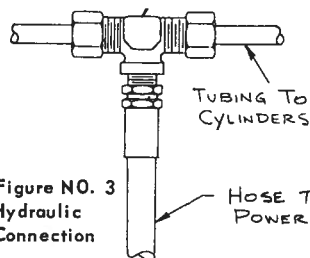

Figure NO. 3
4. Connect Hydraulic Hose from power package to Tee connection on Main Assembly. See Figure NO. 3. NOTE: If Cheek Bender is to be used with Speednotch Hydraulic package, remove plug from sixth hole of manifold and screw nipple on end of hose from the main assembly into the manifold.